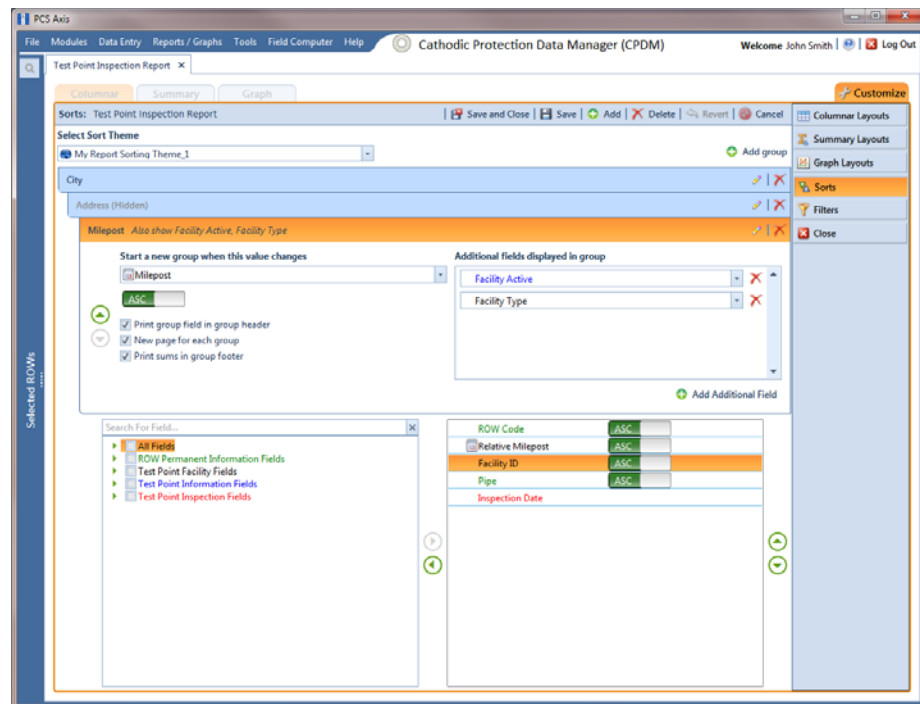

Figure 15-38. Sort Theme Groups
- a** Click  **Add group** to add a new group (Figure 15-38, page 623).
- c** If you want to add another field in the group, click  **Add Additional Field**. Then click the down arrow and select a field in the selection list. The title bar of group includes the name of each field (Figure 15-38, page 623).